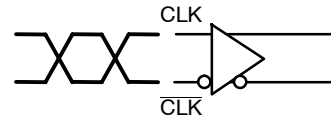

Figure 11. Differential Inputs Driven Differentially
**Differential Inputs Driven Differentially** (see Figures 11 & 13) (Note 8)